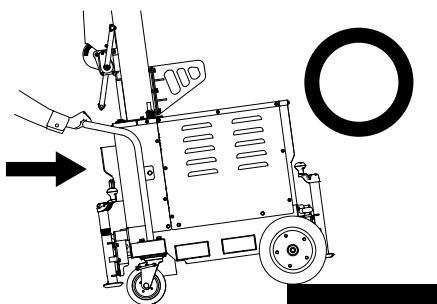

Figure 14. Moving Cart Up a Step
1. To safely climb up a step with the light tower, make sure that the tire side is in the front and caster side is in the rear (Figure 14).